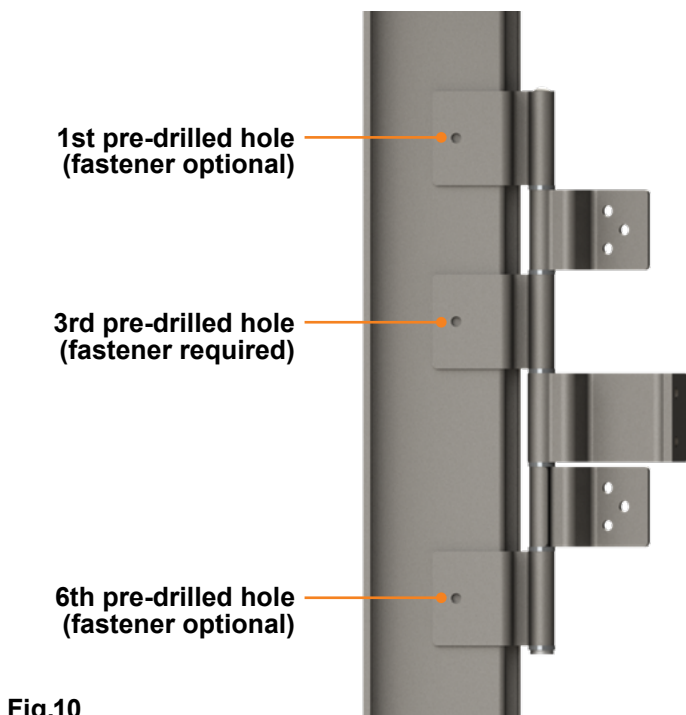

Fig.10
1. Using the third leaf's pre-drilled hole as a guide (**Fig.10**), use an appropriate-sized drill bit to drill a pilot hole through the door frame.